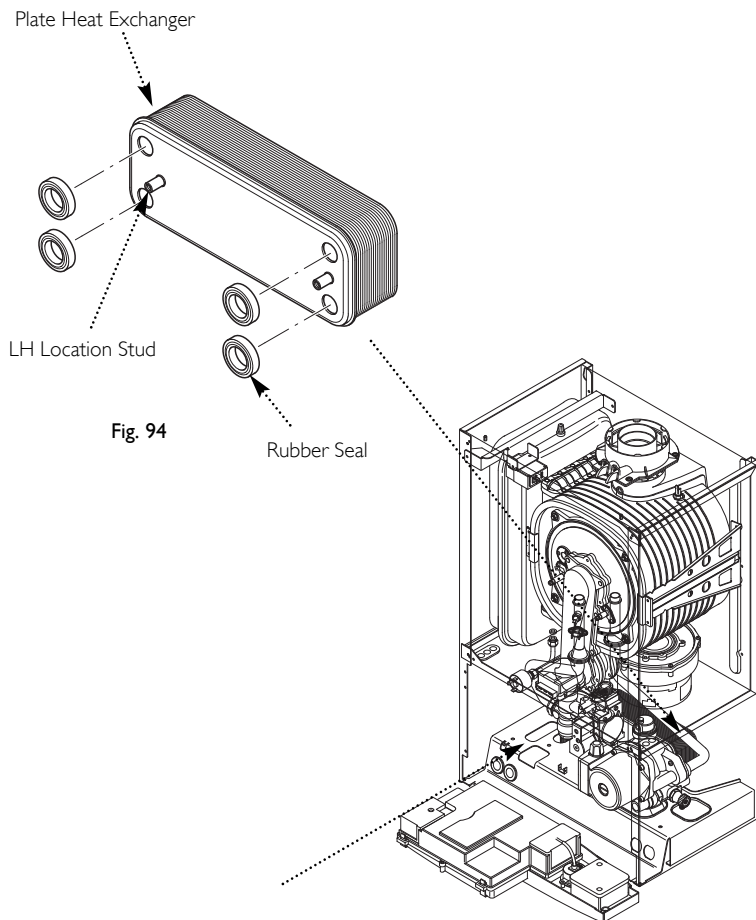

Fig. 94
14.20 Plate Heat Exchanger (Fig. 94)